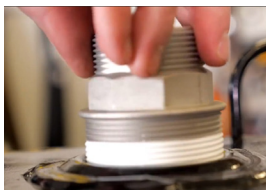

Figure 3
1. Wrap both threaded ends of the tank adapter with three or four turns of thread tape (see Figure 3). Using a pipe wrench, tighten the adapter snugly into the fuel tank.